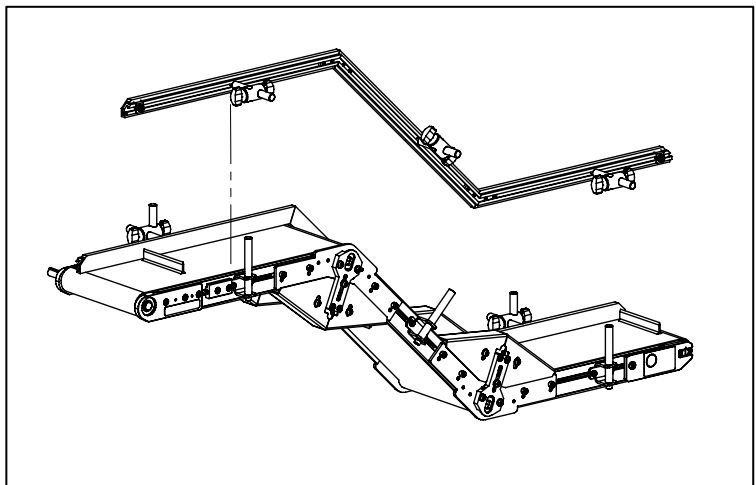

Figure 1
a. Loosen all the guide rail/rod/cross block assemblies, along one side of the conveyor, from the vertical rods connected to the guide brackets, and slide them off vertically (**Figure 1**).